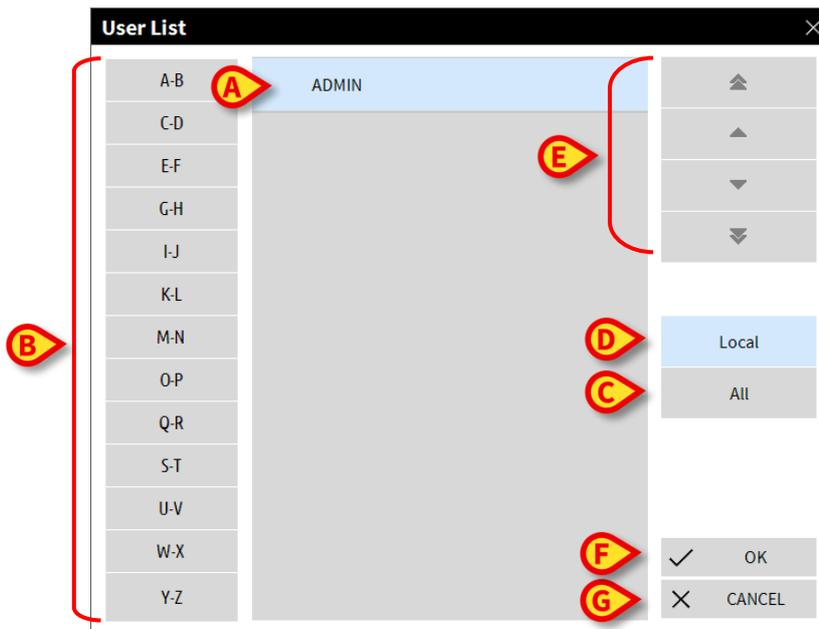

Fig 13
The following window is displayed (Fig 13).
The window shown in Fig 13 can be used as an index book enabling the search and selection of a user in the list of all the possible users.
The central part of the window shows the names of possible users, in alphabetical order (Fig 13 **A**).
The letters on the left side of the window (Fig 13 **B**) work like an index and make it possible to see only the users whose names begin with a specific letter. For example: click the **C-D** button to see the list of patients whose names begin with the letters C or D.
Use the **All** button (Fig 13 **C**) to see the list of all possible users.
Use the **Local** button (Fig 13 **D**) to see the list of users relating to the specific workstation on which you are currently working.
Use the arrows on the right side of the window (Fig 13 **E**) to scroll up and down the list of users.
- Click the **Ok** button (Fig 13 **F**)
Use the **Cancel** button (Fig 13 **G**) to cancel the operation and close the “User list” window without selecting any user.